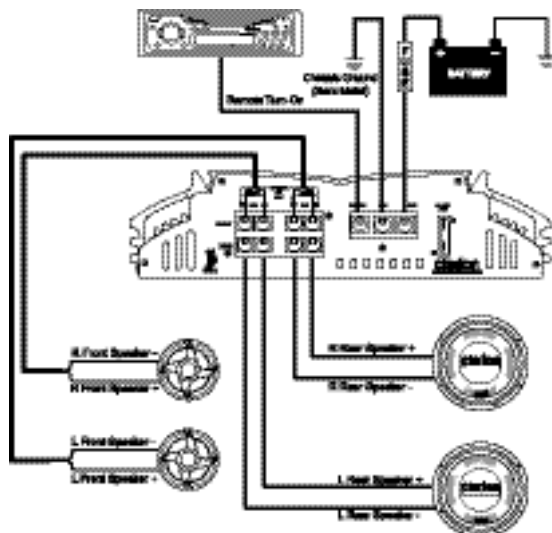

Figure 8 - Electrical connections for the APX401.4
6. Refer to the Figure 8 when making electrical connections. Connect the amplifier's positive (+) lead via a fuse directly to the positive (+) terminal on the battery. Do not connect this wire to the car's fuse panel. Use red-insulated 10-gauge (or larger) wire for the amplifier's positive (+) power lead and the same-gauge black insulated wire for the ground.